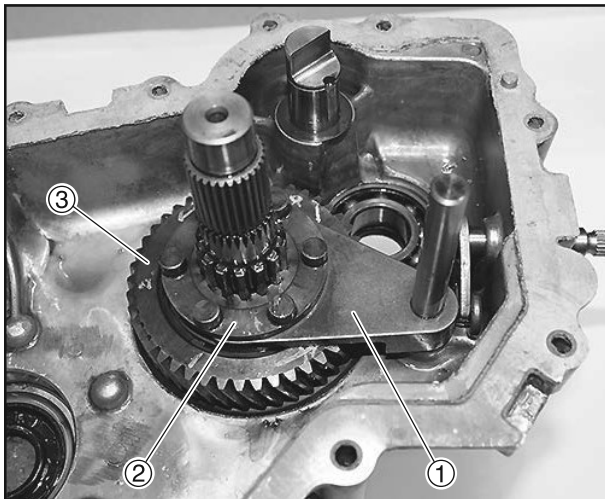

Figure 6-80
17. Remove the shift fork (**Figure 6-80, (1)**) along with the shift collar (**Figure 6-80, (2)**).
18. Remove the forward gear (**Figure 6-80, (3)**) and the countershaft.